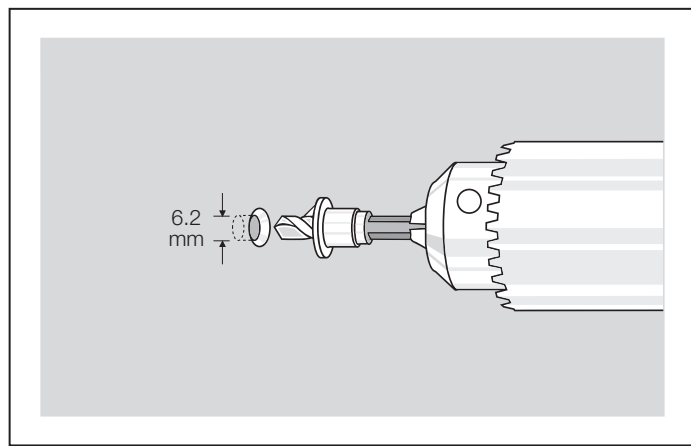

FIGURE 10 DRILL COUNTERSINK HOLE
2. Drill clearance holes into ExoTec™ facade panel, for No.10 gauge screws using a 6mm countersunk masonry drill, which provides a 6.2 to 6.3mm diameter hole, see Figure 10. Countersink hole to a depth of 2.5mm to 3mm. This is measured from the top of the screw to the top of the sheet, see Figure 15.